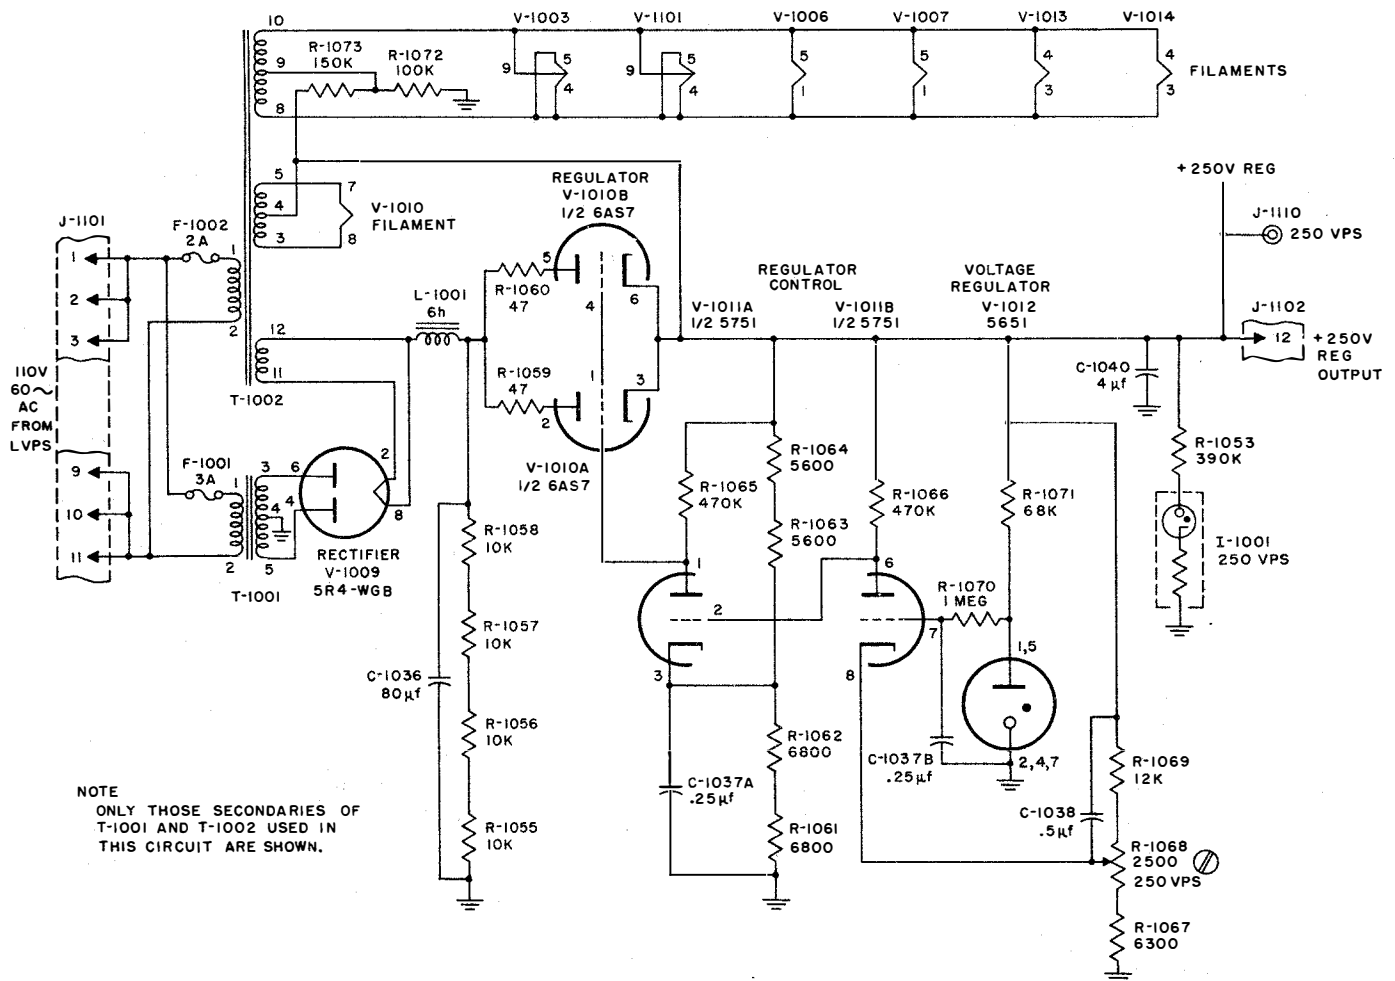

Figure 2-89. Rectifier V-1009, Regulator V-1010, Regulator Control V-1011 and Voltage Regulator V-1012, Simplified Schematic
(1) RECTIFIER V-1009.—Negative 110-volt, 60-cycle a-c power is applied to the +250-volt supply transformer T-1001 through fuse F-1001 (figure 2-89). This a-c power is supplied from the LVPS and is available after the MAIN POWER switch (R), S-3004, ON button has been depressed (see paragraph 4c). Rectifier
(3) REGULATOR CONTROL V-1011 AND VOLTAGE REGULATOR V-1012.—When the power supply output tends to vary from +250 volts, regulator control V-1011 (figure 2-89) produces a signal that causes regulator V-1010 to oppose this change in voltage. The two triode sections of V-1011 are d-c amplifiers in cascade. The control grid of V-1011B, pin 7, is connected through R-1070 to a regulated +87 volts provided by the voltage divider, R-1071, and voltage regulator V-1012 from +250 volts to ground. The cathode of V-1011B is maintained at a positive potential by means of potentiometer R-1068, which is part of the voltage divider R-1069, R-1068 and R-1067 from +250 volts to ground. A change in power supply output voltage results in a change in the voltage divider and consequently a change in the cathode voltage of V-1011B. As the grid voltage of V-1011B is held constant by the action of V-1012, a change in cathode po-